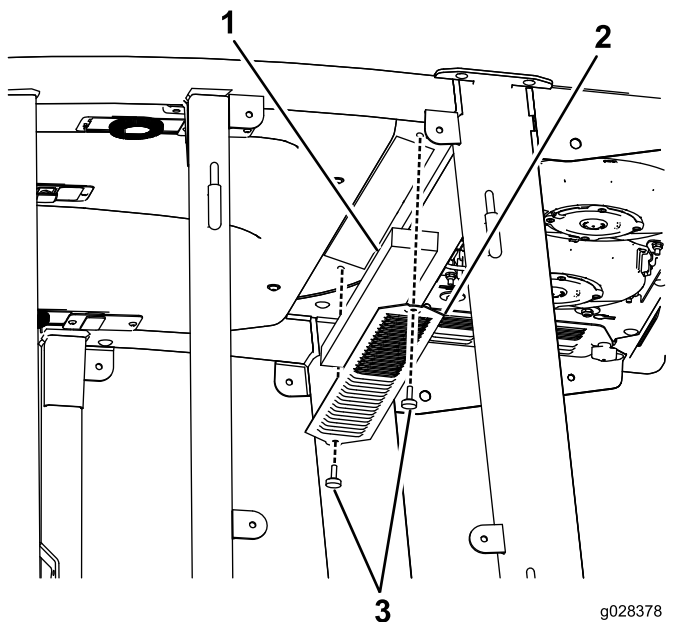
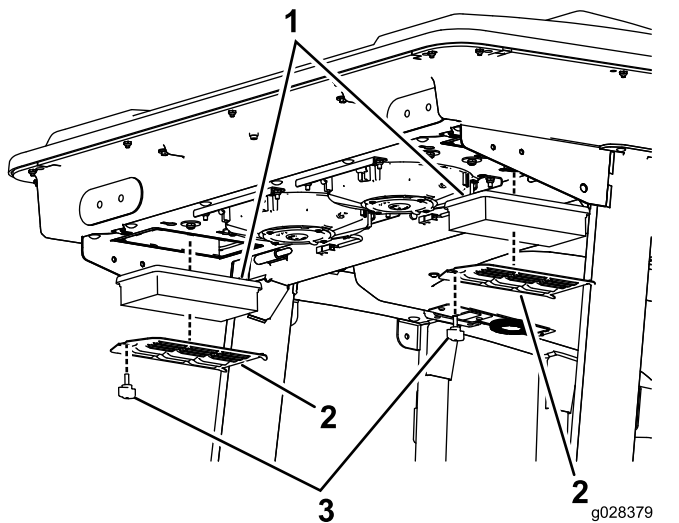
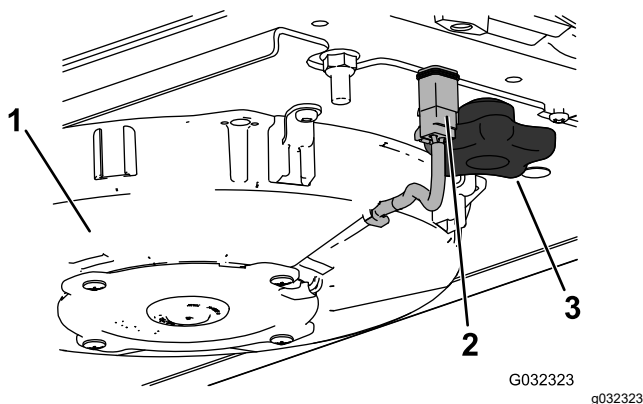
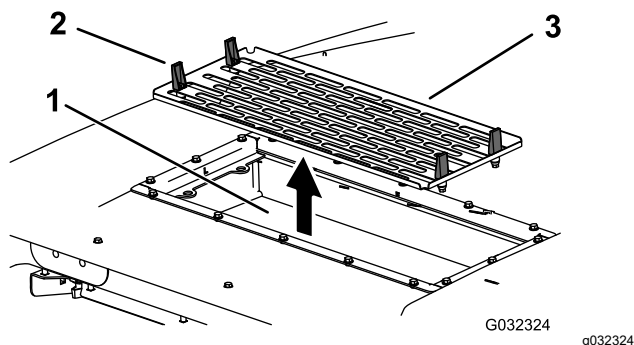

Figure 97
Figure 98
Figure 100
Figure 101
1. Remove the screws and grates from both the in-cab and rear cab air filters (Figure 97 and Figure 98).
4. Remove the air filters (see Figure 98).
6. Install the air filters, screen, and fan assembly (Figure 98, Figure 100, and Figure 101).
7. Connect the wire for each fan (Figure 100).